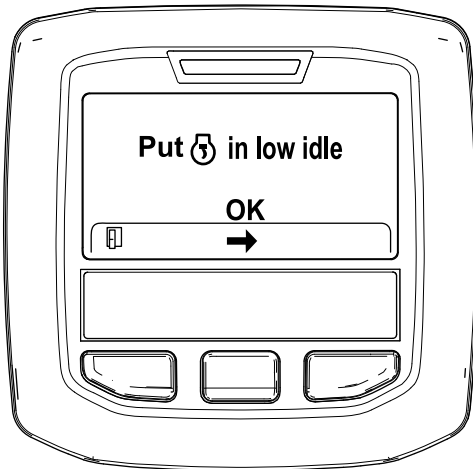

Figure 41
6. Move the throttle control to LOW IDLE and press the center button (Figure 41).